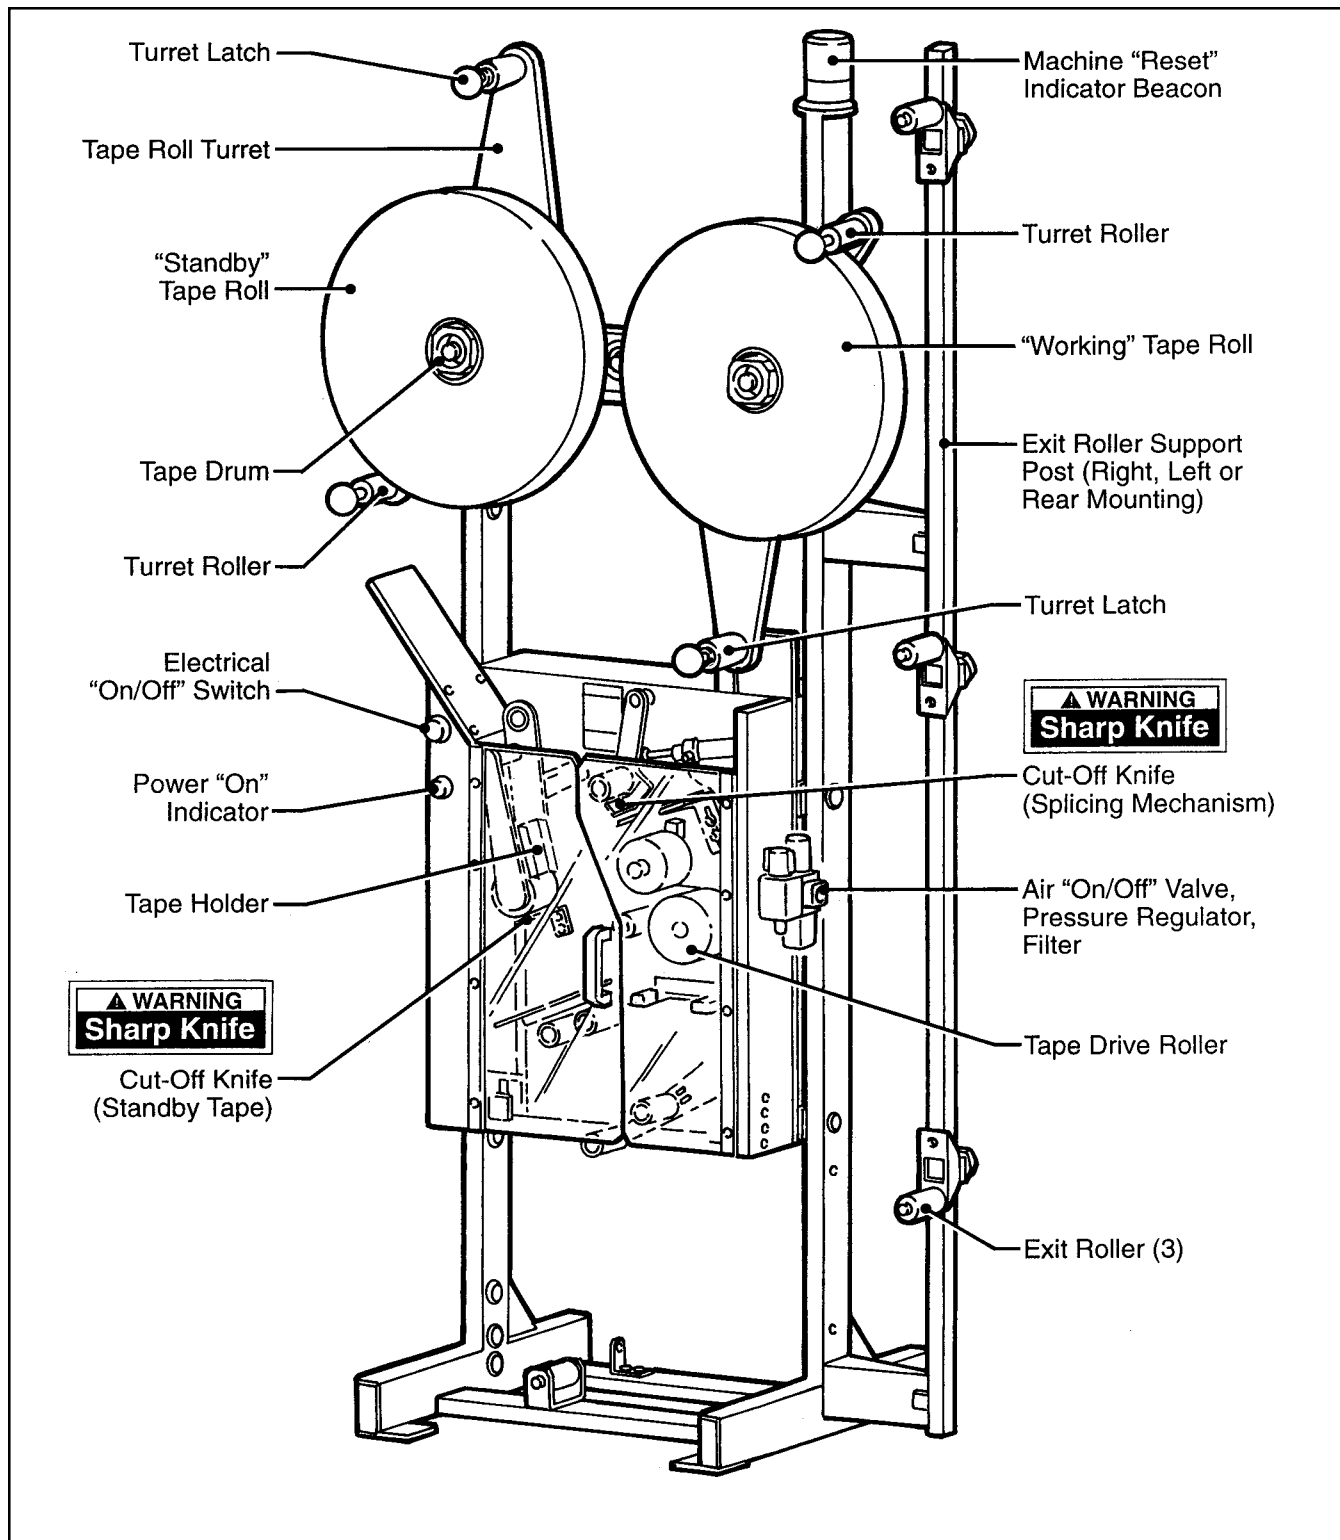

Figure 3-1 – CTS Components
Refer to Figure 3-1 to acquaint yourself with the various components of the CTS splicer, especially the location of the two tape cut-off knives.
2. The two tape cut-off knives are extremely sharp. Before loading or threading tape refer to Figure 3-1 and identify the knife locations. Keep hands out of this area except as necessary to thread tape and then use caution to prevent injury.